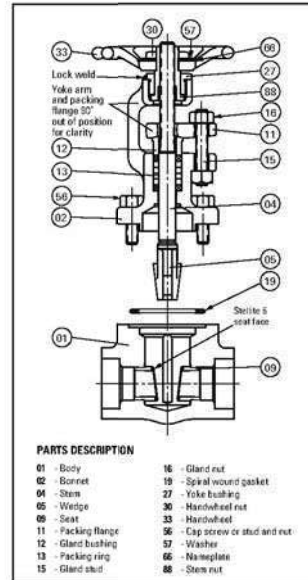

Figure 2.3 Bolted bonnet gate valve
5.1.1 General (Figures 2.3 and 2.4)